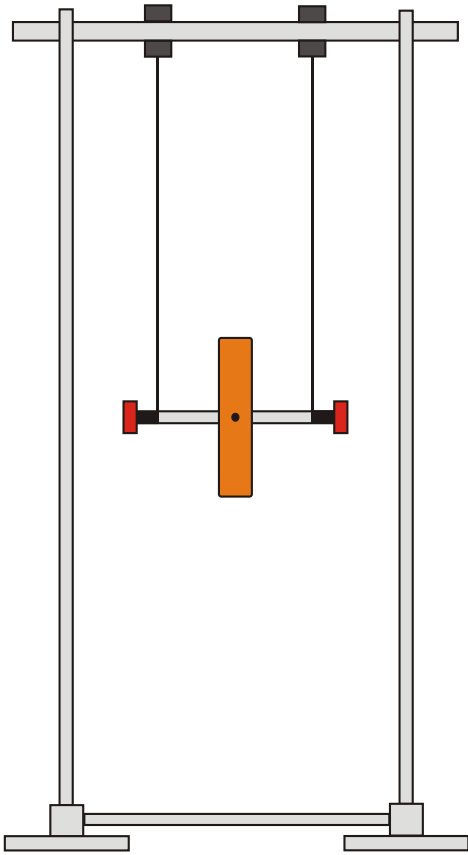

Fig. 1: Experimental set-up of Maxwell's wheel
- Set up the stand rods on the base as shown in Fig. 1.